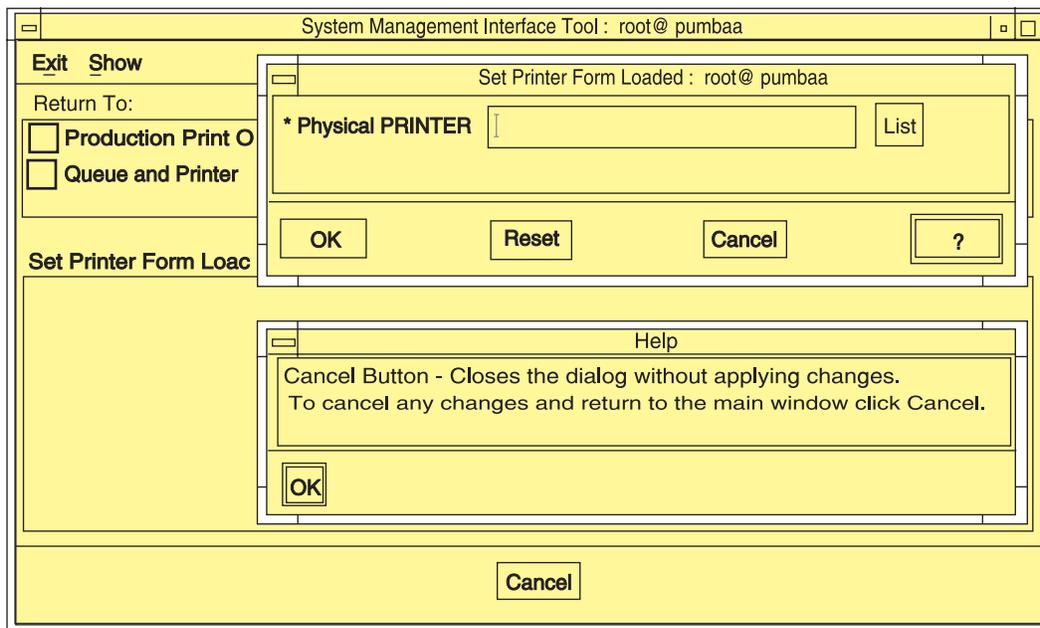

Figure 32. Help for SMIT window fields and buttons
1. Select the button labeled with a question mark at the bottom right of the window. A Help window displays beneath the SMIT window. Figure 32 shows the results of selecting the question mark button.